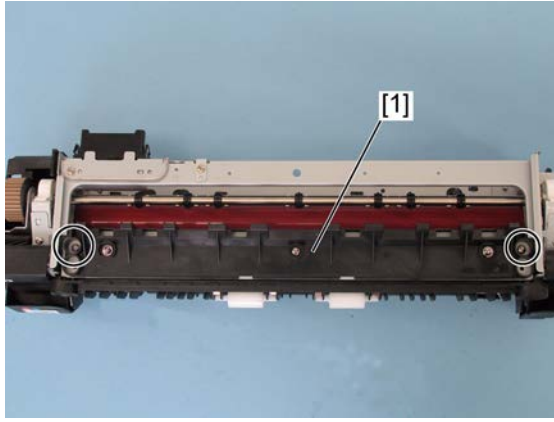

Fig.8-37
2. Adjust the inlet guide[1] of the fuser unit and check if the paper wrinkle disappears. (Fig.8-37)